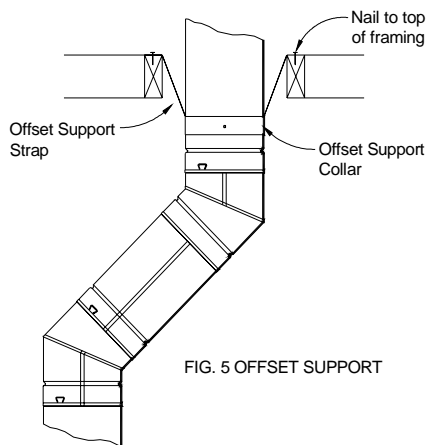

FIG. 5 OFFSET SUPPORT
If any offsets are necessary in the vertical system, an Offset Support (OS) should be installed directly above the upper elbow of the offset. Install by attaching the Offset Support Band to the pipe with two #8 x 1/4" sheet metal screws (minimum) and secure the Offset Support Straps to surrounding structure (see Fig. 5).